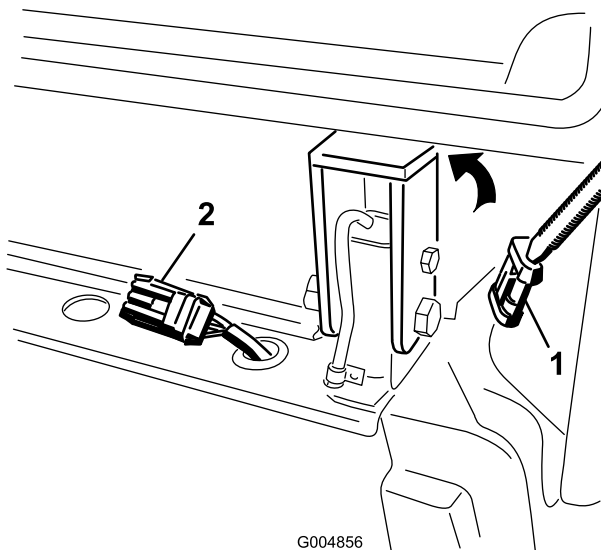

Figure 127
42. Remove the cap and plug the cab wire harness connector into the harness on the rear frame mount (Figure 127).